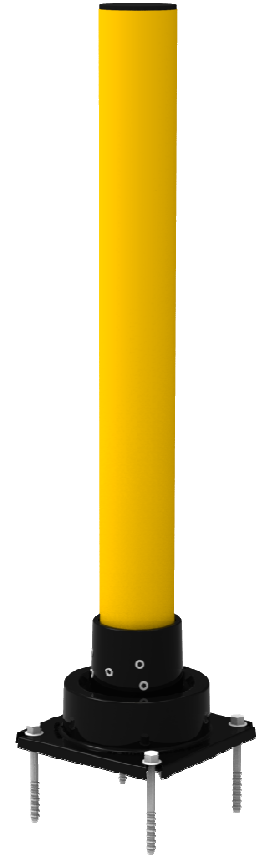

Figure 2
8. When complete, the assembly should appear like Figure 2.